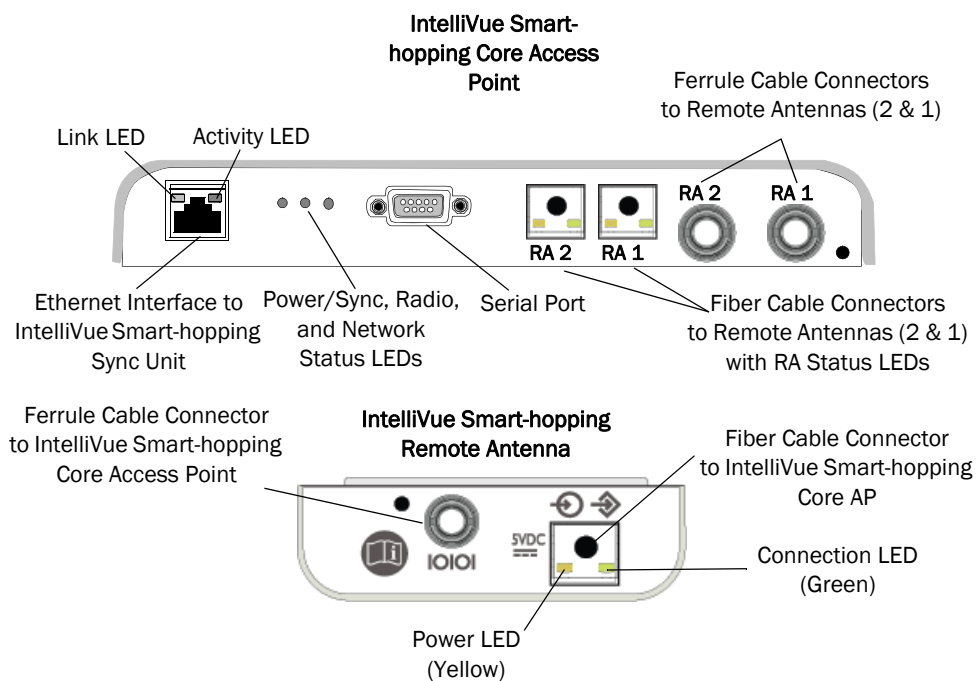

Figure 2-1: 1.4 GHz IntelliVue Smart-hopping Core AP and Remote Antenna Controls and Connectors
- a) Connect the first Remote Antenna to the Core AP using the Fiber and Ferrule cable connectors labeled **RA 1** in Figure 2-1.
- b) Connect the second Remote Antenna to the Core AP using the Fiber and Ferrule cable connectors labeled **RA 2** in Figure 2-1.
- a) Connect the first Remote Antenna to the Core AP using the UTP and Coaxial cable connectors labeled **RA 1** in Figure 2-1.
- b) Connect the second Remote Antenna to the Core AP using the UTP and Coaxial cable connectors labeled **RA 2** in Figure 2-1.